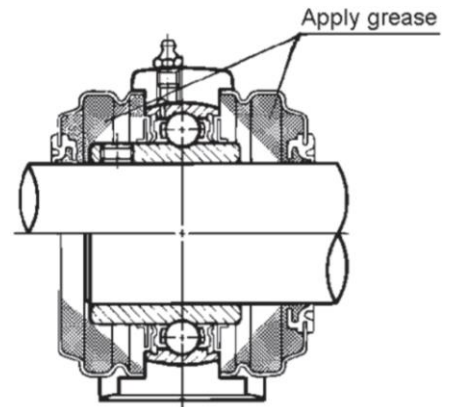

Fig. 5.1: For pressed steel covers
- 2) Apply an amount of grease corresponding to 1/3 to 1/2 of the volume of the space inside the covers to that space as shown in Figs. 5.1.